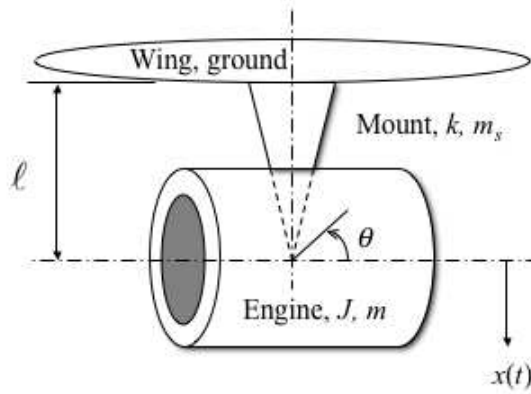

Figure P1.86
- 1.86** Use Lagrange's formulation to calculate the equation of motion and the natural frequency of the system of Figure P1.86. This figure represents a simplified model of a jet engine mounted to a wing through a mechanism which acts as a spring of stiffness k and mass m_s . Assume the engine has inertia J and mass m and that the rotation of the engine is related to the vertical displacement of the engine, $x(t)$ by the "radius" r_0 (i.e. $x = r_0 \theta$).